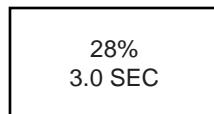

Figure 3-12 — Wipe percentage count
- Press the Take button. The wiping switch begins immediately and is finished in the time specified by the duration. During the wipe, the LCD displays a percentage count (1 – 100) as the effect is completed (figure 3-12). The former preview image is now the new program image.